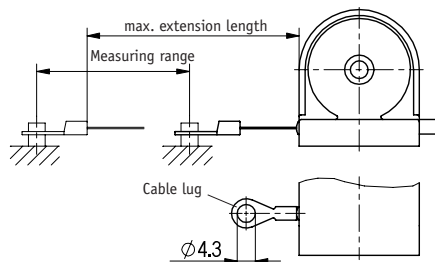

Fig. 2: Extension length check
- After mounting, check that the maximum extension length complies with the application (fig. 2). The cable lug or rope must be drawn out to the intended fastening position. The rope must not be twisted.
Pull out the wire perpendicular to the wire outlet (fig. 2).